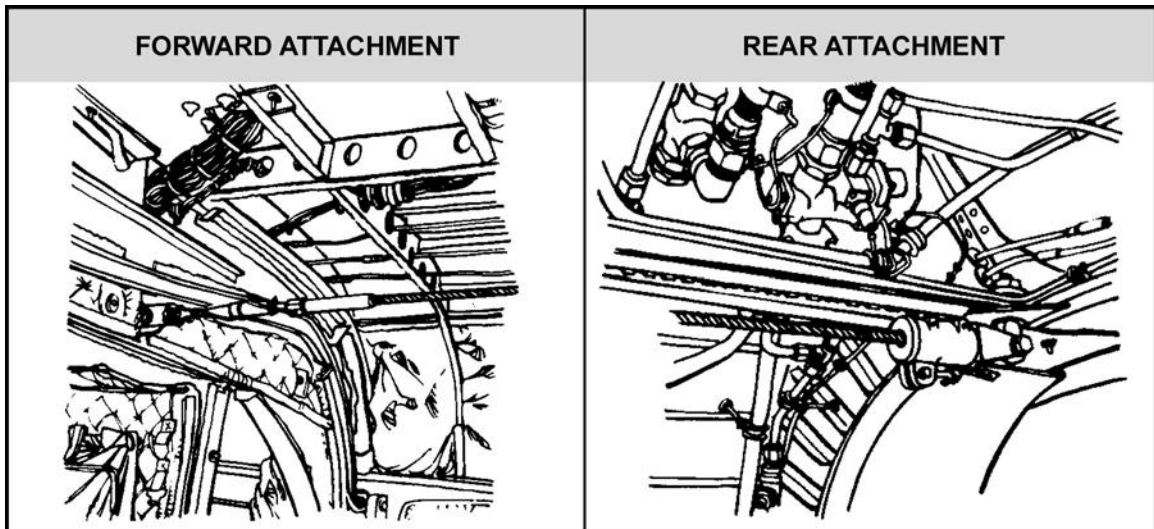

Figure 17-19. CH-47 anchor line cable attachment.
- (1) Install safety belts for each parachutist and extend all the way out to ensure positive hookup while seated.
- (2) Secure the permanently installed anchor line cable to the attachment points on the starboard side of the aircraft (Figure 17-19).
- (3) Incline the ramp for personnel parachute drops during flight.